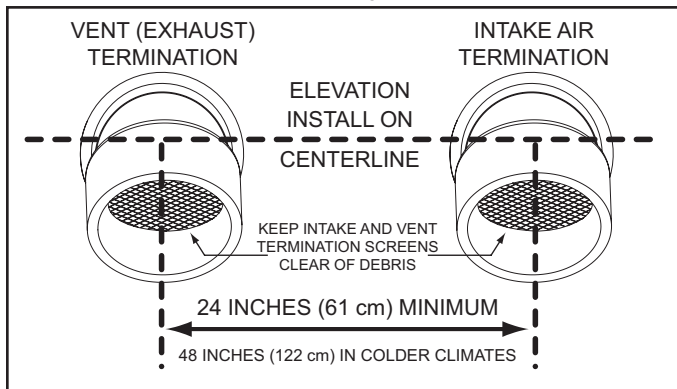

Figure 22. Sidewall Termination - Direct Vent
4. If installing both an intake air and vent termination in a Direct Vent configuration through a sidewall there must be a minimum of 24 inches (61 cm) separation, measured on vertical center line, between the intake air and vent terminations. See *Figure 22*.
5. If installing both intake air and vent terminations in a Direct Vent configuration through a sidewall the intake air and vent terminations must be installed at the same elevation measured on horizontal center line. See *Figure 22*.
However, the distance between the closest vent and intake air terminations must be a minimum of 24 inches (61 cm). In colder climates this separation should be increased to at least 48 inches (122 cm). See *Figure 22* (page 27).